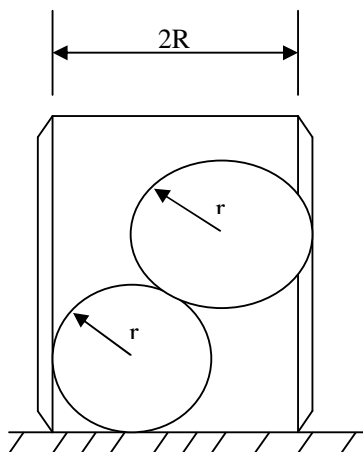

Figure 2
2. Two smooth ball bearings each of weight 'w' and radius 'r' are placed inside a cylindrical open at both ends. The assembly rests on a horizontal surface as shown in Figure 2. If the cylinder is of weight 'W' and radius  $R < 2r$ , find: a) the force exerted by either ball bearing on the cylinder, b) the smallest value of W that will prevent the cylinder from tipping over c) could the cylinder possibly tip if it were closed at the bottom? (15M)